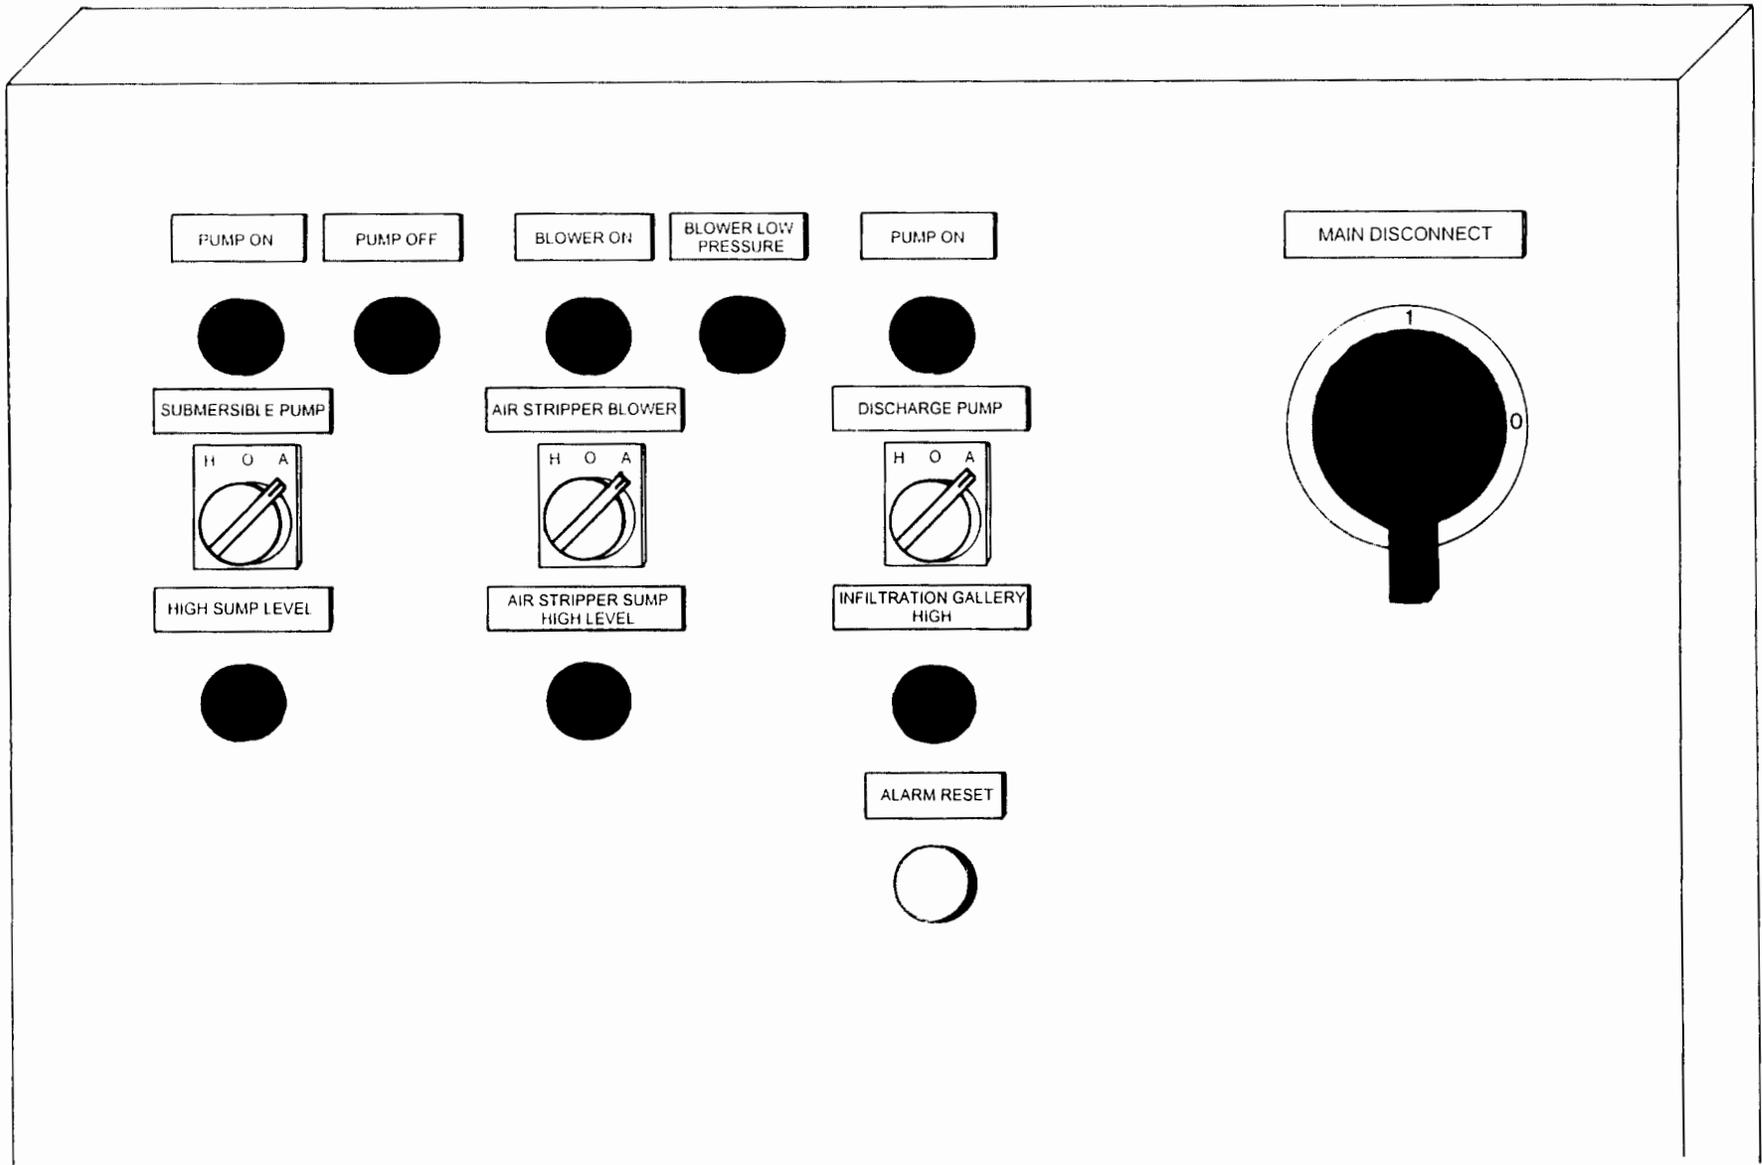

FIGURE 4
- Document the status of the system including all alarms on the Main Stripper Panel (see FIGURES 4, 5, and 6). Document water levels in the air stripper sump, building sump, ponds and chemical feed tank. Document any other potentially relevant or unusual circumstances.